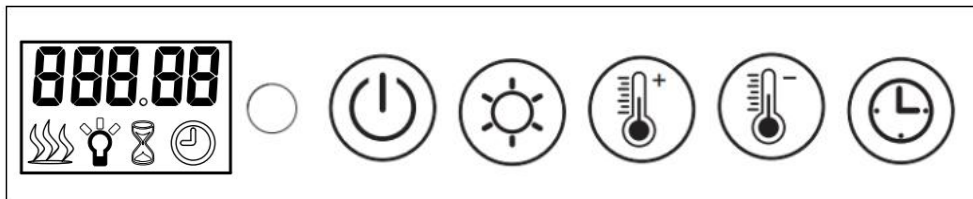

FIG 1 Control Panel
B. Place the unit face down on a soft, non-abrasive surface. Unscrew the screws and remove the bracket from the back of the device, please refer to Figure 1.